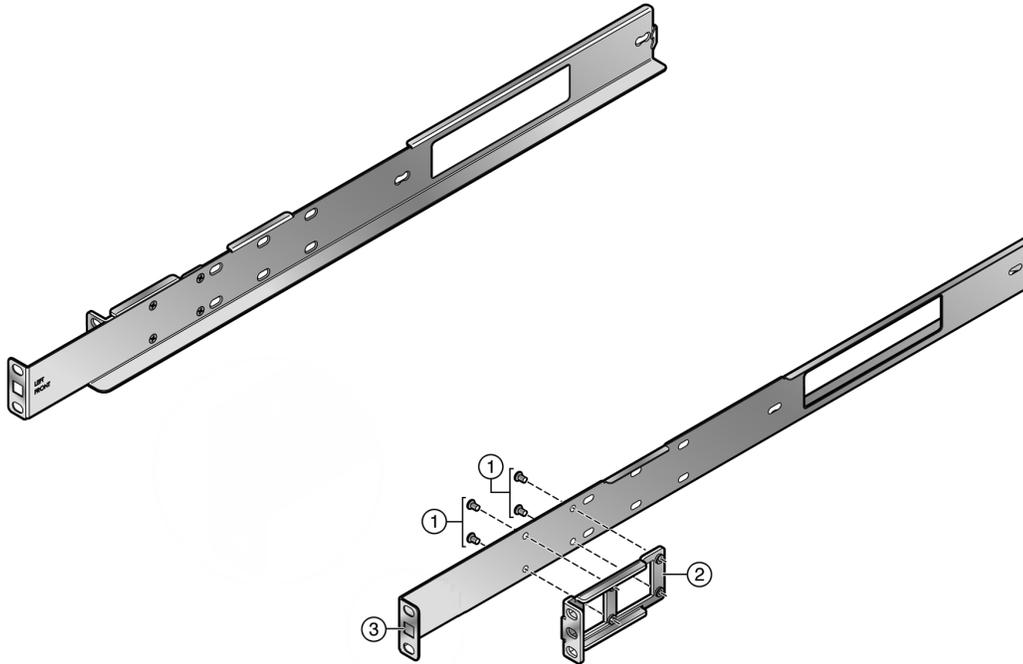

Figure 27: Securing Mid-Bracket to Rail 3-inch Flush Mount
- 3 inches in from the rack mount rail ear for securing to the rear rack post flange in a 3-inch rack post flush mount configuration. See Figure 27: Securing Mid-Bracket to Rail 3-inch Flush Mount on page 63.
- 1 Align the mid-bracket (callout 2) with the four rail holes closest to the rail ear (callout 3) as shown in Figure 27: Securing Mid-Bracket to Rail 3-inch Flush Mount on page 63 for both rails.